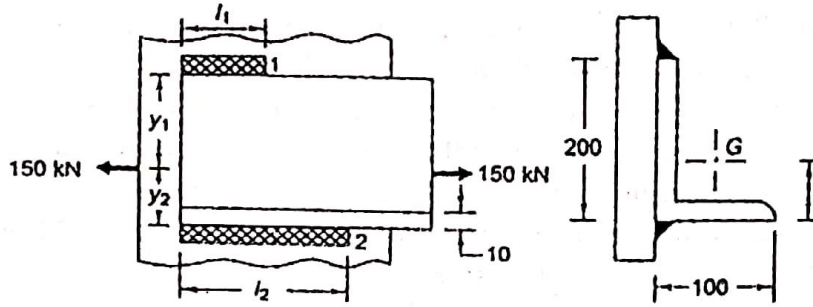

Fig. 14 (a)
- 14. a) An ISA 200 × 100 × 100 angle is welded to a steel plate by means of fillet welds as shown in Fig 14 (a). The angle is subjected to a static force of 150 kN and permissible shear stress for the weld is  $70 \text{ N/mm}^2$ . Determine the lengths of the weld at the top and bottom.